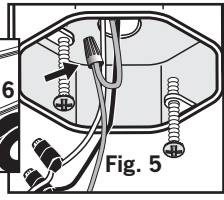
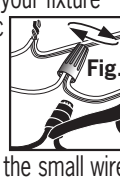

Fig. 5
Fig. 6
- 4 Connect the supply leads from the electrical box to the fixture wire leads using the medium wire nuts (D) supplied in your installation hardware kit as per the illustration. The black lead from the fixture goes to the black supply lead, and the white lead from the fixture goes to the white supply lead. Secure the wire nuts properly to prevent the wires from coming loose (Fig. 5). Tape the wire nuts to the wire using electrical tape. Carefully push the excess wires back inside the electrical box (Fig. 6).